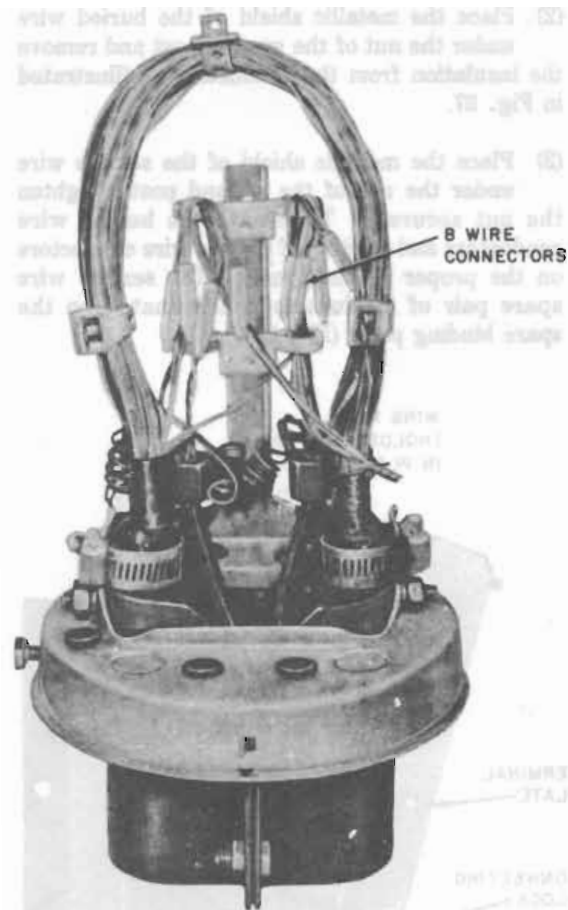

Fig. 60—Service Wire Installed—B Cable Closure (Nonprotected)
- (3) Run the service wire conductors to be connected up through the plastic clips on the bracket assembly and bend down over the top clip (Fig. 60).
- (4) At each cable butt, place binder group identification ties (see 7.01) around the binder group containing the cable pair to be connected. Remove the unit binder. Remove the assigned cable pair from the binder group and cut the cable pair (see 7.02). Place the cable pair up through the plastic clips on the bracket assembly and bend down over the top clip. Connect the service wire conductors to the cable pair conductors with B wire connectors or 700-type connectors (Fig. 60, see 7.08).